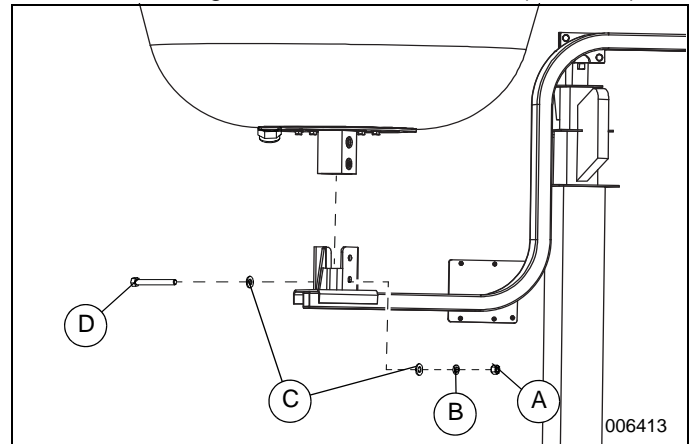

Figure 11. Light-to-Bracket Installation
- See **Figure 11**. Install light fixture to mounting weldment. Tighten hardware to 43 ft-lb (58.3 Nm).
7. See Figure 11. Install light fixture to mounting weldment. Tighten hardware to 43 ft-lb (58.3 Nm).